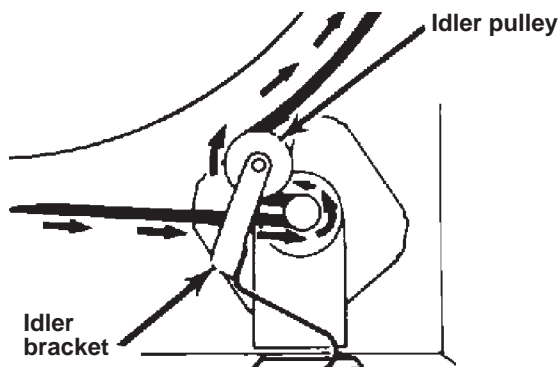

Figure 4
4. Pass the free loop of the belt through the idler bracket and under the pulley. The belt is then looped over the motor pulley. See Figure 4.